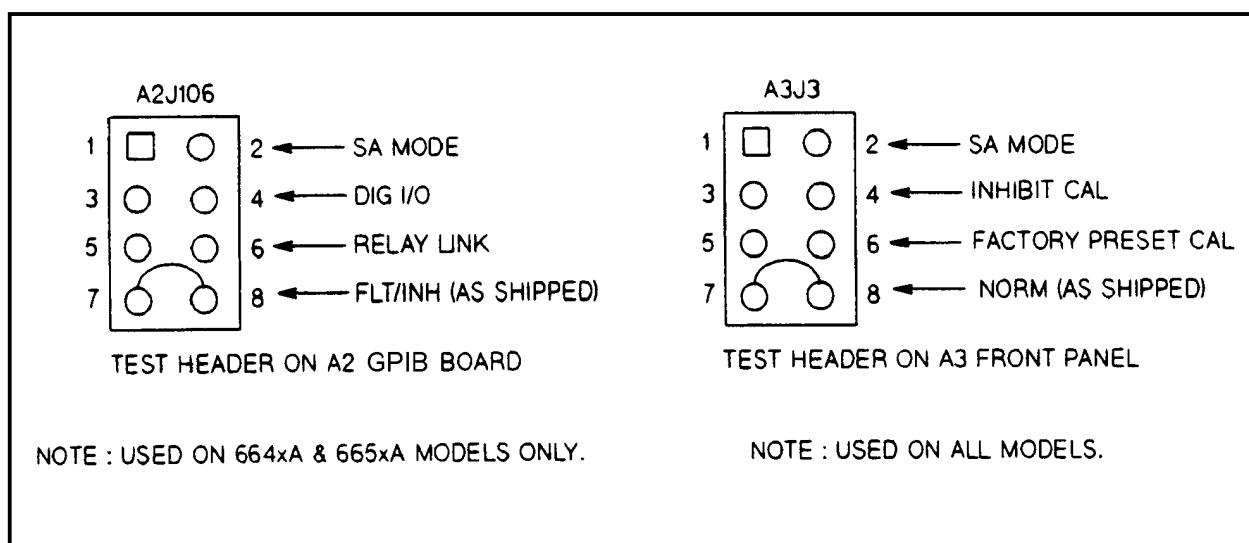

Figure 3-3. Test Header Jumper Positions
For Agilent models 664xA & 665xA, there are two test header connectors; A3J3 and A2J106. The A3J3 connector is located on the A3 front panel board and the A2J106 connector is located on the A2 GPIB board (see Figure 3-3). They are accessible when the top cover is removed from the supply. For models 654xA & 655xA, only the A3J3 test header is used.
If "CAL DENIED" appears on the display when the front panel calibration is attempted, or if error code 1 occurs when GPIB calibration (models 664xA & 665xA) is attempted, the INHIBIT CAL jumper (see Figure 3-3) has been installed. This prevents power supply calibration from being changed. You must remove this jumper from the INHIBIT CAL position
- b. Install jumper in test header J3 on the front panel board A3 in the FACTORY PRESET CAL position between pins J3-5 and J3-6. (See Figure 3-3.)